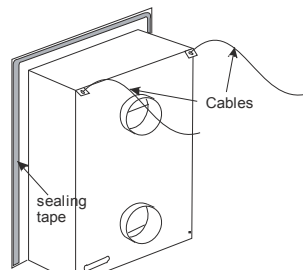

Figure 23
4. Unpack the cables from the cable fixing kit and feed the end into the holes in the two tabs at the rear top of the appliance (see **Figure 23**)